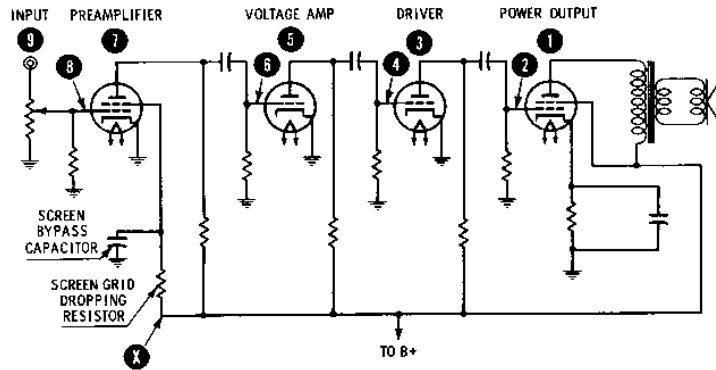
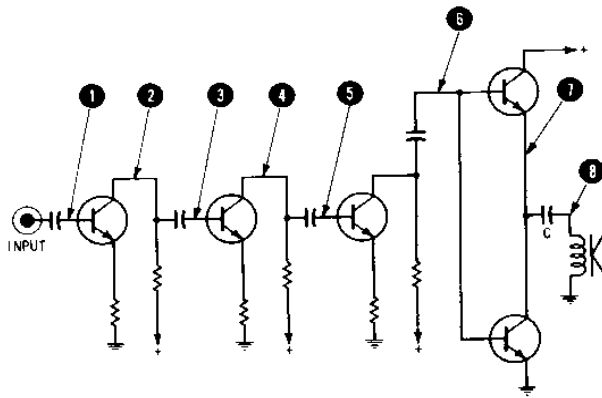

Fig. 4-1. Sequence of testing amplifiers.
Fig. 4-5. Basic circuit of transistor amplifier showing the signal path.
Fig. 4-1 shows a partial schematic of a typical amplifier. The idea is to check the signal path by listening for pops as the voltages are being checked. This path starts at the input and goes all the way through in a plain series circuit. Each time the signal passes through an amplifier stage, it gets louder (more amplification). Anything that breaks the chain will stop the signal right there. You can see the test method: Start at the output and work back toward the input. The numbers in Fig. 4-1 show the correct sequence. For this test it is assumed that the power supply has been checked and the right B+ voltage found at the filter output (X). If the output of the power supply is correct, the power supply itself must be all right, and the trouble must be somewhere in one of the amplifier circuits.
So, we can use exactly the same tests as before. Fig. 4-5 shows a basic circuit of a typical transistor amplifier. (A lot of components have been left out, but this is the complete *signal path*.) You can make your tests in the same way as before—either "back to front" as shown in Fig. 4-1, or you can use the signal-tracing method shown here.
Refer to Fig. 4-5. Feed in a known input signal, say 400 Hz at about 50 millivolts. With a scope, check this level at Point 1, then at Point 2, and so on, going from base to collector of each stage. Normally, you'll see a good deal of voltage gain from input to output of
Transistors can short internally, also. In the basic circuit of Fig. 4-5, an emitter-collector short will probably burn up the emitter resistor, due to the high fault-currents. In circuits with higher resistance, you’ll read the same voltage on the base as you have on the collector or the same voltage on emitter and collector. To make sure, take the transistor out of the circuit and make ohmmeter tests or use a transistor tester.